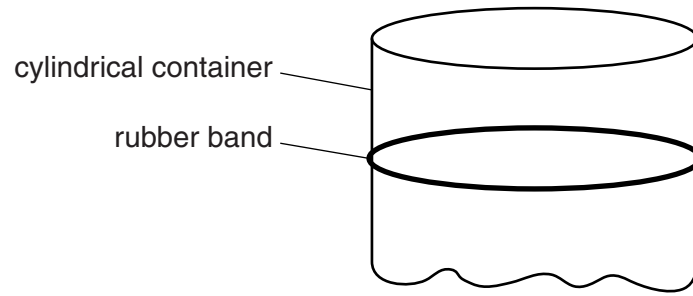

Fig. 2.2
- 3 It should be possible for the candidate to place the rubber bands around the cylindrical container without them slipping off, as shown in Fig. 2.2.